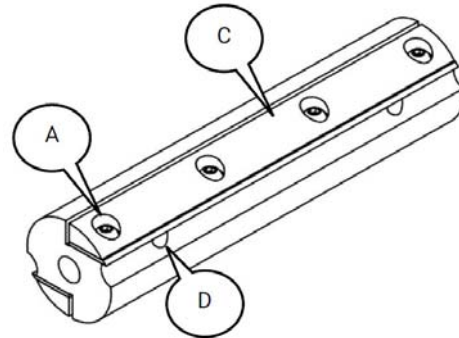

Fig. 31: Loosen and remove screws
Step 9: Tighten the motor fastening screws (Fig.31) again.
Step 5: Loosen and remove screws (Pos.A, Fig.31).
Step 12: Tighten screws (Pos.A,fig.31) after successful adjustment.